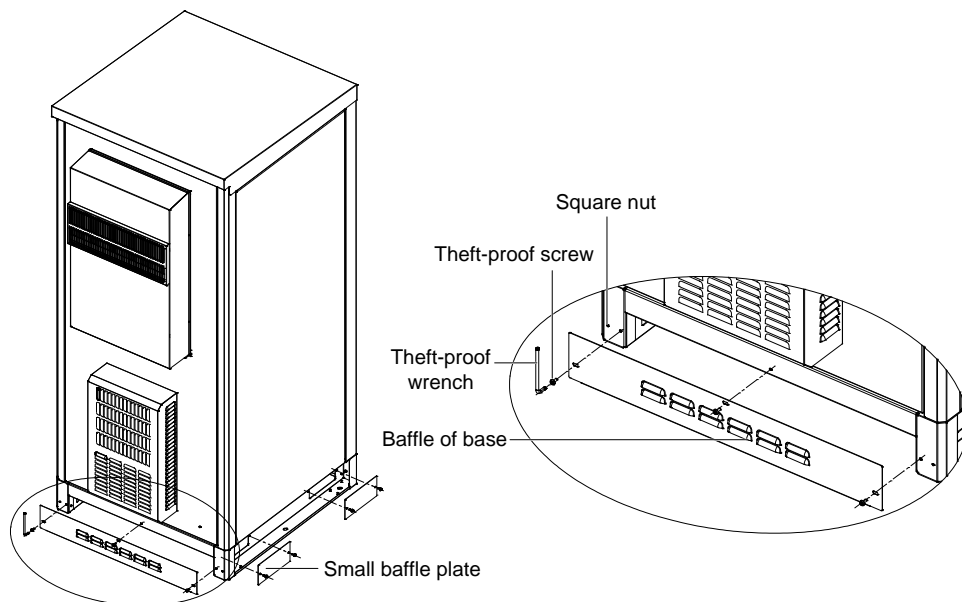

Figure 2-23 Installing base cover plate
1. Insert the square nut (see Figure 2-23) into the square hole at the cabinet base, and drive it from inside to outside.
2. Tighten theft-proof screws by using a theft-proof wrench, so that the baffle plate is fixed on the cabinet base, as shown in Figure 2-23.